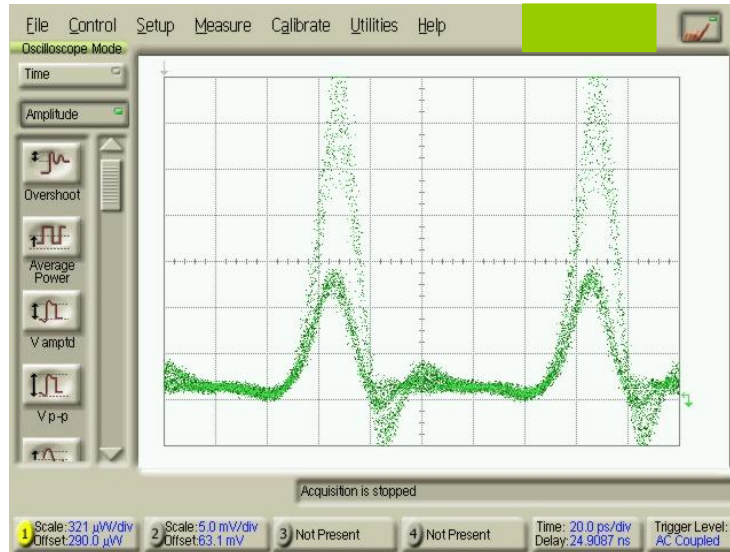
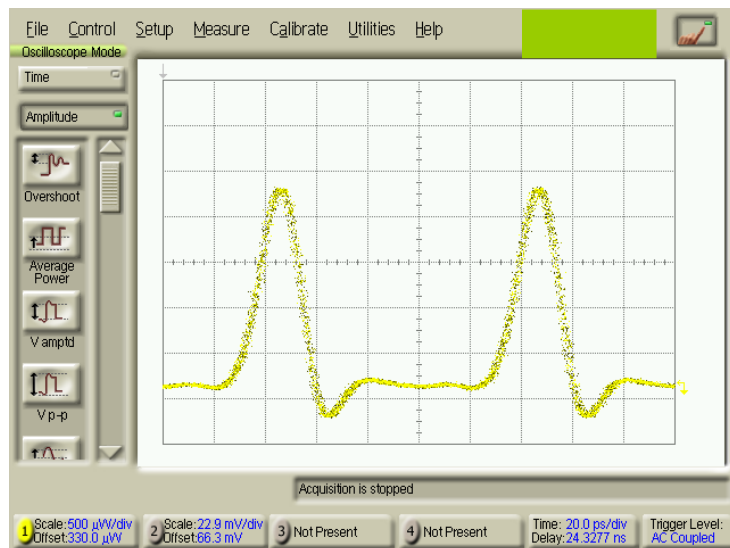

Figure 5 Pulse traces on a DCA scope show the laser is closed to mode-lock condition
Figure 6 Stable pulse traces on a DCA scope
3) After setting the frequency of the **RF SOURCE** to f_T , fine-tune the frequency around the initial f_T to find the clear 10 G pulse train display on **DCA**. A typical trace is shown on Figure 5. It is normal at this moment that the trace on **DCA** is only clear for a short period of time and then drifts away.
Note: If the laser temperature and RF drive frequency are not matched, one cannot find a stable trace. Note: Figure 5 and Figure 6 used a limited bandwidth (~30GHz) system to characterize the output of the 10 GHz laser. The shape in figure 5 and 6 are distorted due to the bandwidth limitation.
(Figure 5) the **RF SOURCE** frequency is close to a stable mode-locked frequency point. The phase lock switch is off; (Figure 6) the laser is phase-locked to the **RF SOURCE** with phase and bias optimized.